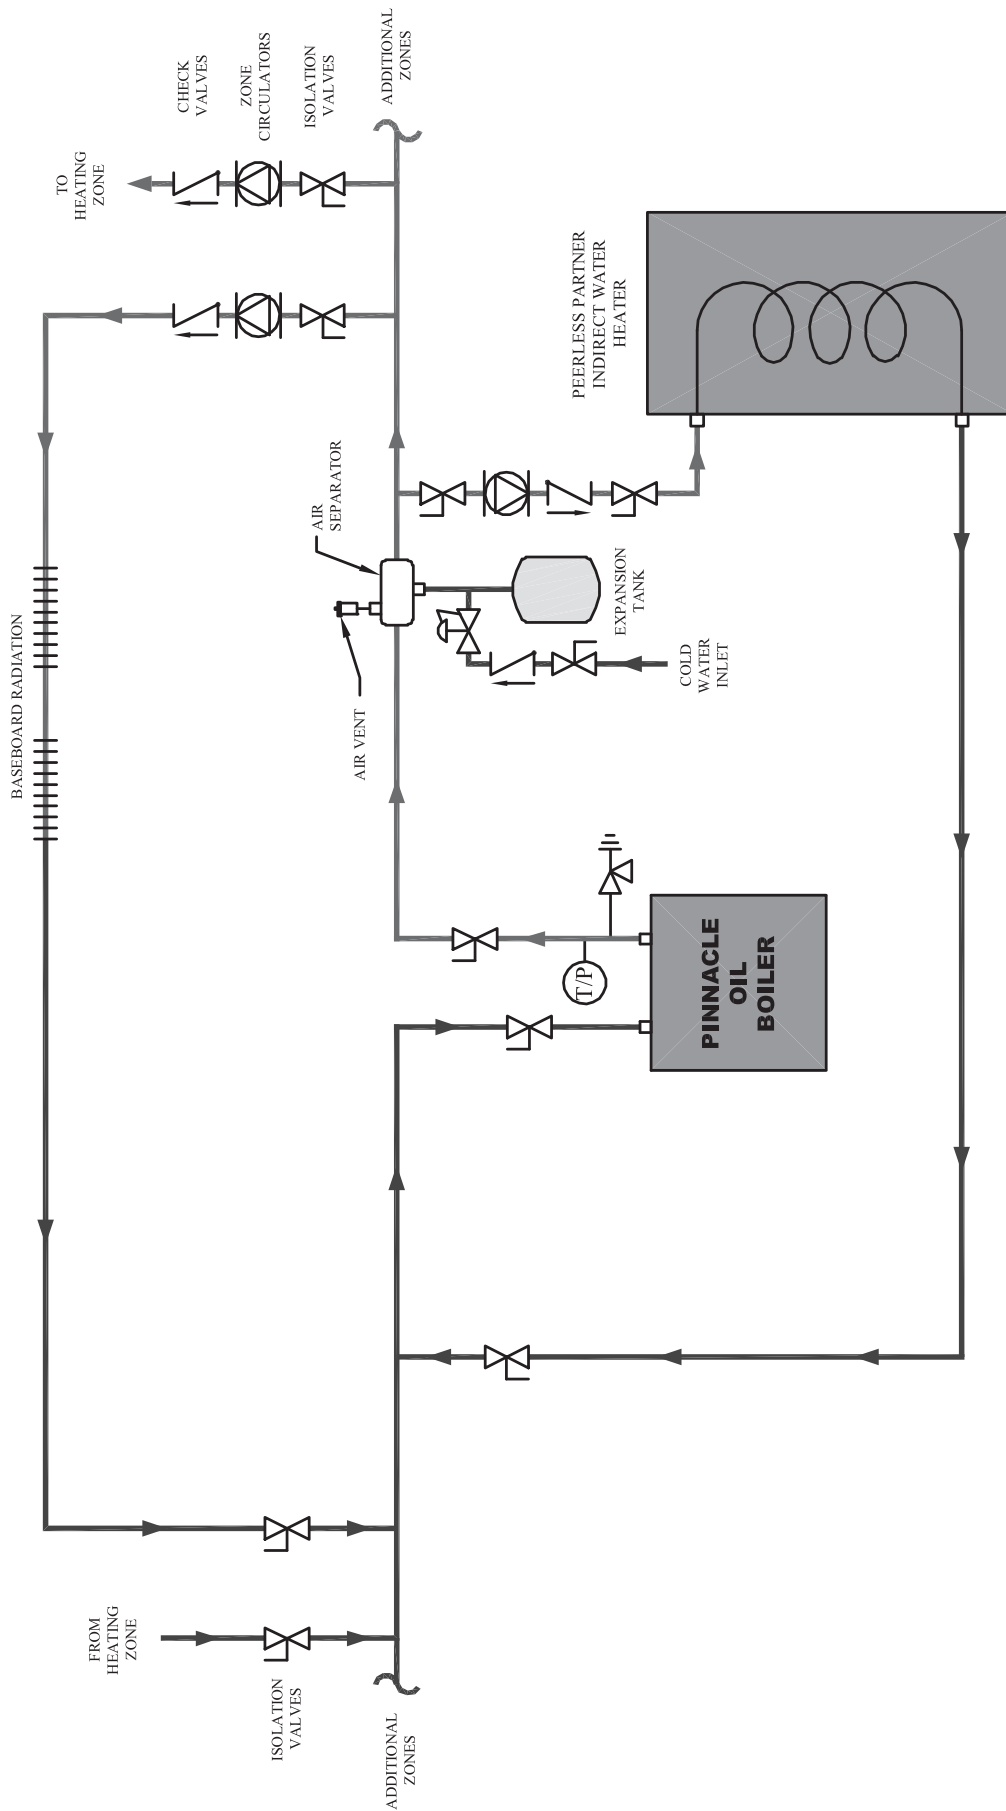

Figure 4.4: One Boiler with Three Zones using Zone Circulators
2. *Figure 4.4:* This diagram shows an additional zone in which baseboard radiation is the heat load. Baseboard radiation can be operated using the outdoor reset function to maximize the boiler efficiency.